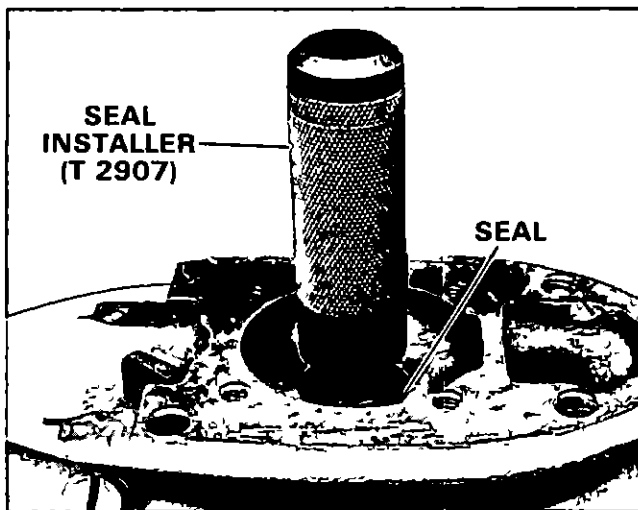

Figure 67. Installing Driveshaft Seal.
- B Position seal and tool in bore of upper gear housing as shown in Figure 67 and press seal in until it contacts bottom of bore